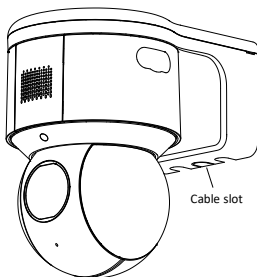

Figure 2-66 Wiring on the wall
- For the cables routed on the wall surface, you need to route the cables through the middle slot on the bottom of the back box, as shown in Figure 2-66.